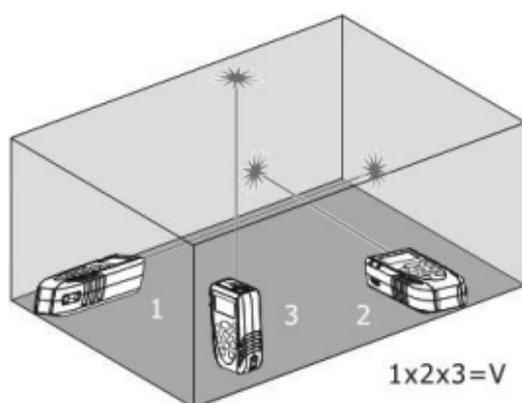

Fig. 6: Example of volume measurement
3. Press the  key to perform the first measurement (length) of the surface (see Fig. 6). The corresponding value appears on the first partial display. The symbol "" appears on the display with side "1" flashing
4. Press the  key again to perform the second measurement (width) of the surface (see Fig. 6). The corresponding value appears on the second partial display. The value of the corresponding area is shown in the resulting display. The symbol "" appears on the display with side "2"
- Press the  key again to perform the third measurement (height) (see Fig. 6). The total value of volume is shown in the main resulting display